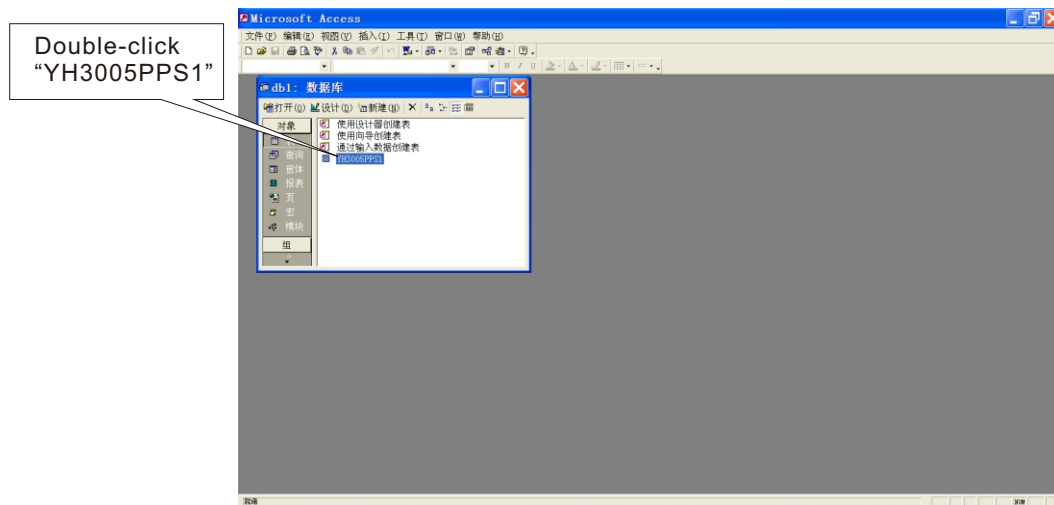

Figure 50
- Double-click the file “db1.mdb”, start Microsoft Office Access software, as figure 50.